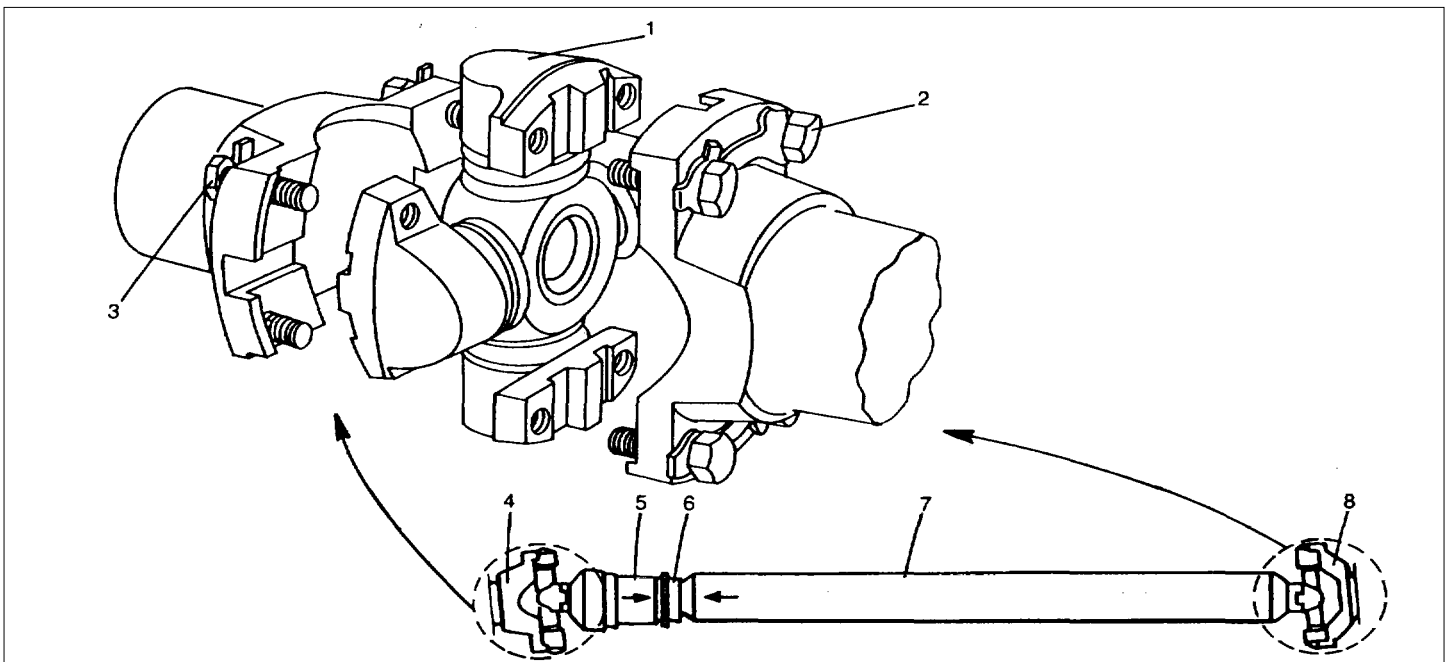

Fig. 2
2.1 Disassembly (Refer to Fig. 2)